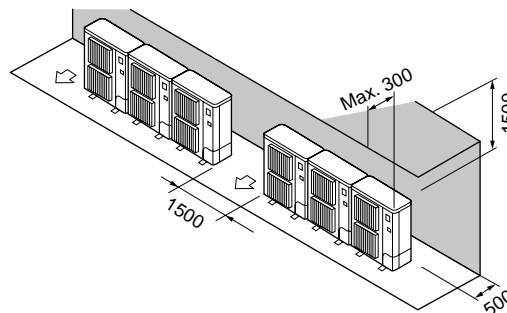

Fig. 2-11
- Obstacles at rear and above only (Fig. 2-11)